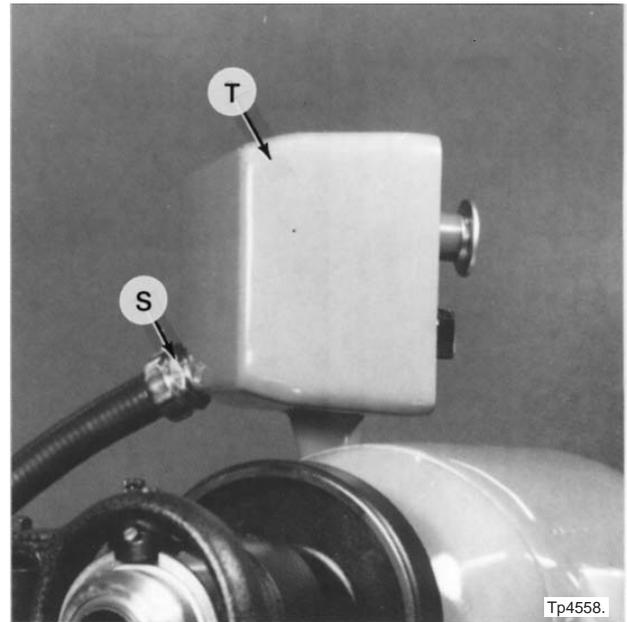

Figure 6.11 - Control Head Conduit Nut
It may be necessary to remove conduit nut "S", Figure 6.11, to remove variable speed control head "T".
23. Lift variable speed control head "T", Figure 6.11, straight off.
32. Replace variable speed control head "T", Figure 6.11 .
33. If it was necessary to remove conduit nut "S", Figure 6.11, to remove variable speed control head "T", replace conduit nut "S" at this time.